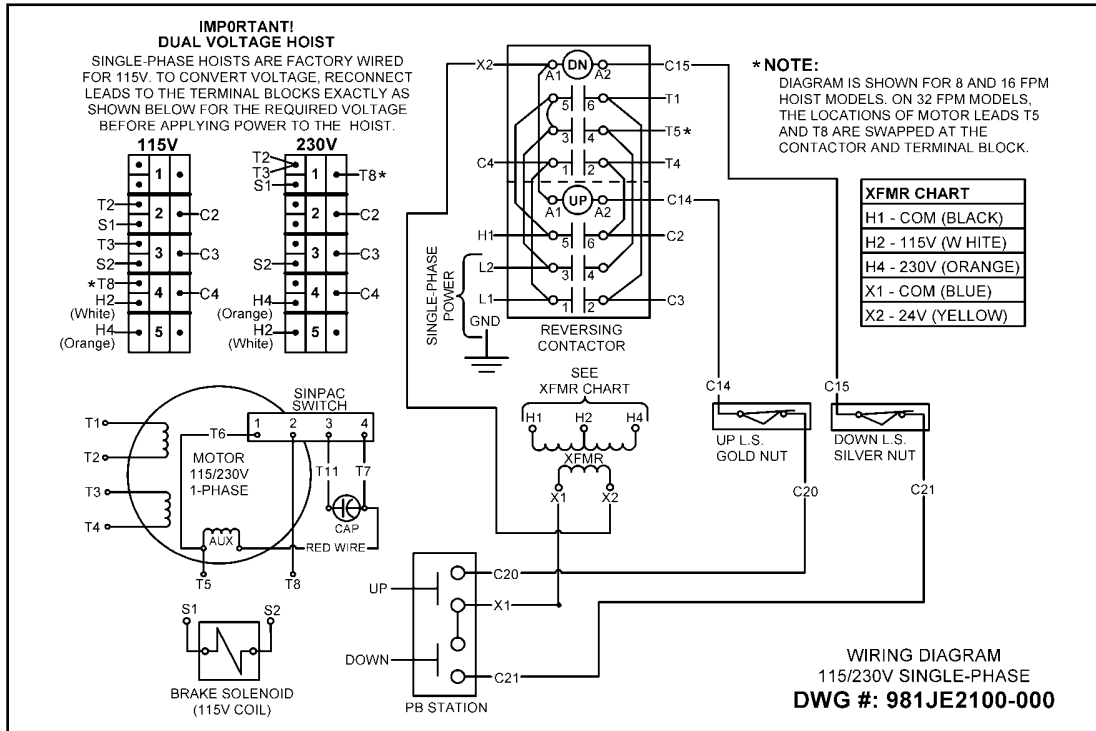

Figure 9A — Wiring Diagram for 1-Speed, 1-Phase Models
Refer to Figures 9A and 9B
2. Each dual-voltage hoist has a terminal block assembly for the interconnection of the electrical components of the hoist. To convert the voltage, reconnect the leads to the terminal blocks according to the wiring diagram located inside the electrical cover or Figures 9A and 9B.
IMPORTANT: Always refer to the wiring diagram located on the inside of the electrical cover or Figures 9A and 9B when performing electrical repairs. Make sure all connections are secure and check for damaged insulation. It is also imperative that the power circuit has conductors of adequate size (See Table 3).
The contactor can be slid off the rail, but must be snapped on. Where the contactor fits the rail, one side has springs or pads that apply pressure against the edge of the rail. By pressing against that side at the base of the contactor, you can snap the part on or off using a rotating action. Note the numbers that label the terminals on the contactor and orient the part as shown in Figures 9A & 9B. Single-phase contactors have a small jumper that is not present on the 3-phase (note the 3 and 5 terminals on the reversing contactor in Figure 9A).
6. Refer to Figure 17 for repairs on the pushbutton station. Also refer to the wiring diagram inside the electrical cover or Figures 9A & 9B for wiring instructions.
5. Install new or repaired motor according to the wiring diagram located inside the electrical cover or Figures 9A and 9B.